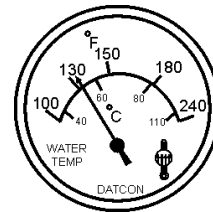

Figure 65. Coolant Temperature Gauge
10. The water temperature gauge (Figure 65) will indicate the coolant temperature. Under normal operating conditions the coolant temperature is between 165 and 215 degrees Fahrenheit.